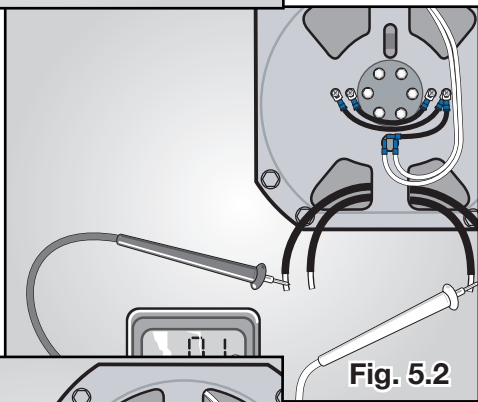

Fig. 5.2
- Test 12 Volt winding pairs (White/White, Black/Black). Each should measure ≈ 0.1 Ohms (See Fig. 5.2).